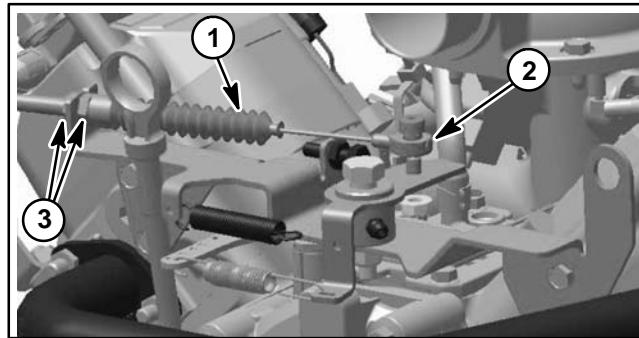

Figure 22
- C. Two (2) machine wire harness connectors from engine wire harness connectors on starter side of engine.
13. Disconnect accelerator cable ball joint from throttle bell crank on engine (Fig. 22). Loosen jam nuts on cable and remove cable from throttle bracket. Position accelerator cable away from engine.
9. Connect accelerator cable ball joint to throttle bell-crank on engine (Fig. 22). Secure cable to throttle bracket with jam nuts.